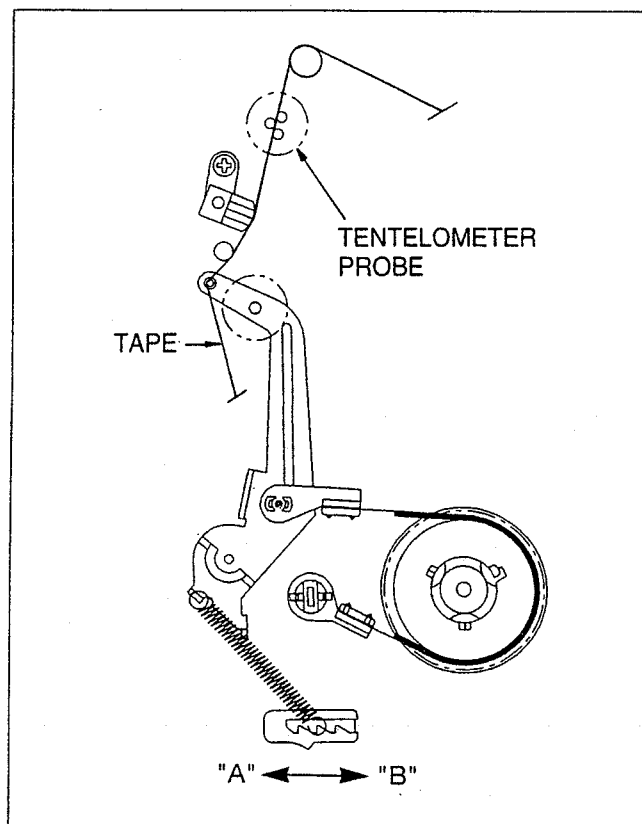

Fig. 4-7 MEASUREMENT OF THE BACK TENTION
- 3) Set the Tentelometer as shown in Fig. 4-7 and confirm the scale (SPEC: 20-27 gr/cm).
- 4) If the scale indicates more than 27 gr/cm, move the TENSION SPRING to "A" direction and less than 20 gr/cm, move to "B" direction. (See Fig. 4-7)